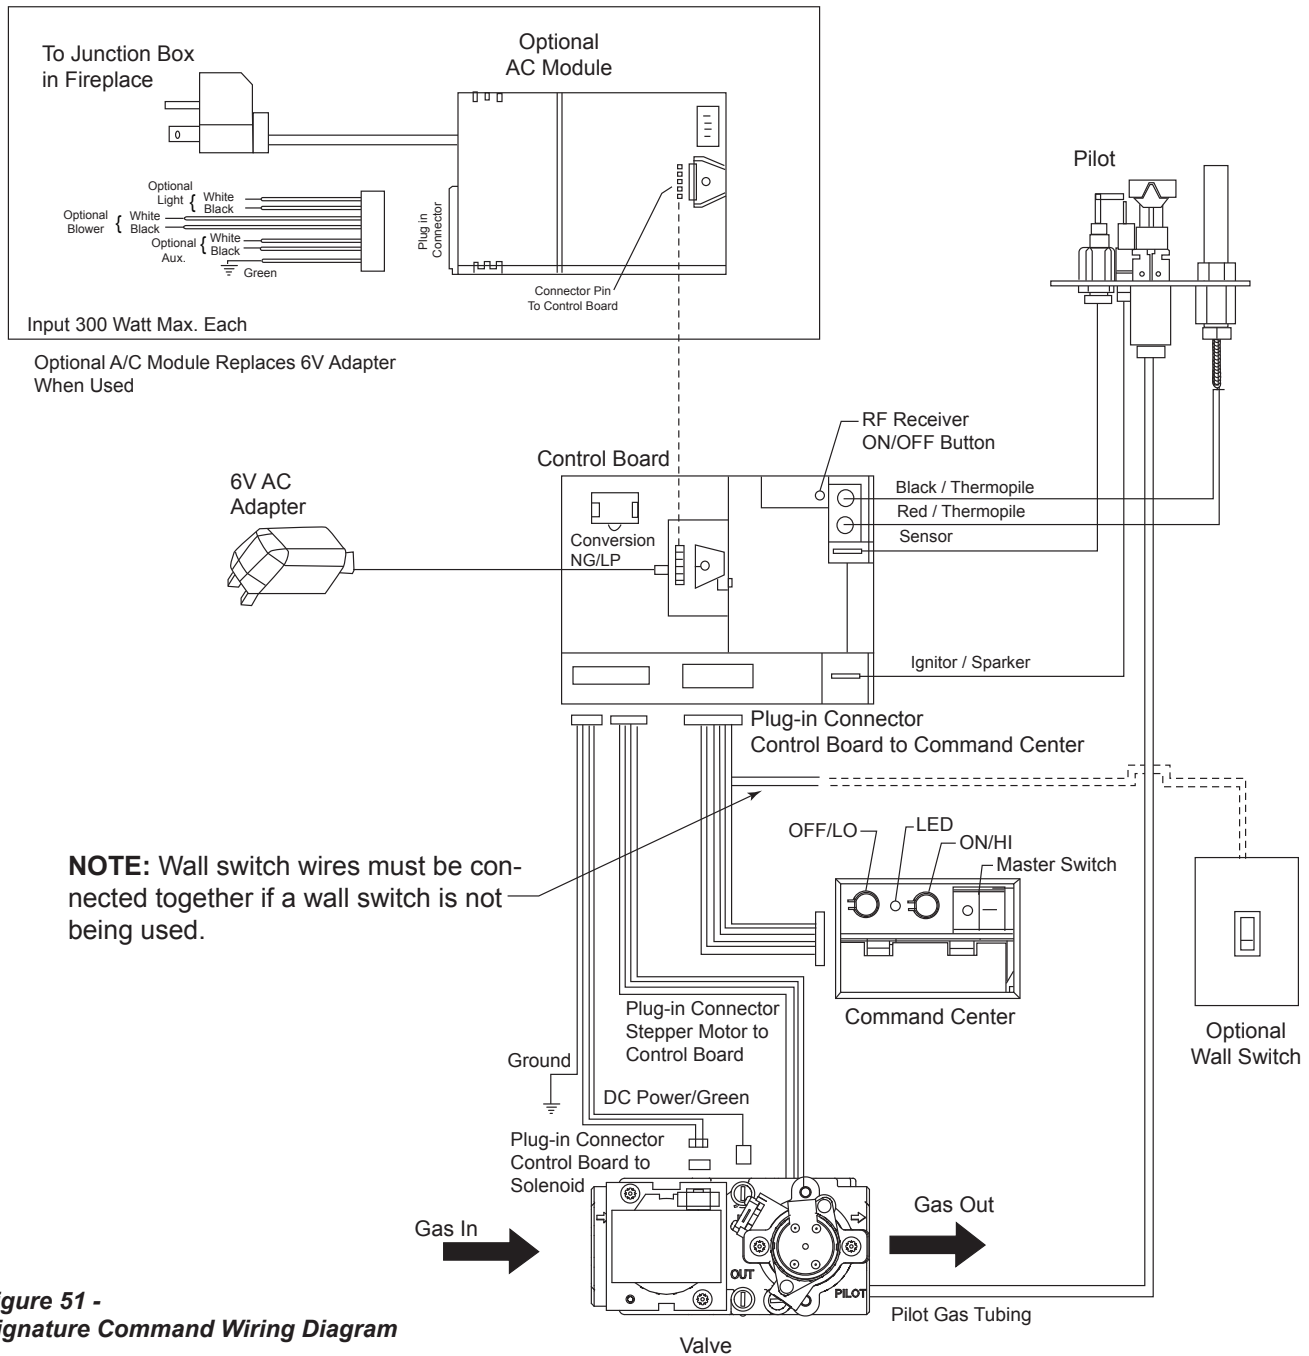

Figure 51 -
The wall switch wire connection is located off the 2 ft. wire harness from the control box to the command center. *Figure 51*. The connection is labeled "Wall Switch". Unplug the male and female connectors and connect the two (2) low voltage wires provided. Run wire to desired location on wall. Up to 50 ft. of 18 ga. wire may be used if necessary. Attach wires to wall switch. Mount the wall switch in to junction box and screw on cover.